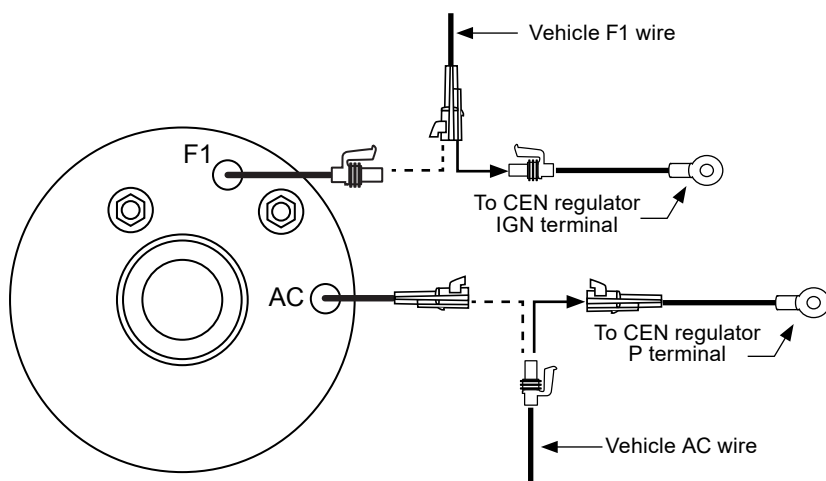

Figure 6: Reuse Existing FLD wire for IGN and AC wire from EMP
- If replacing **EMP** or similar alternator: remove connectors from F1 and AC pigtails on alternator (see Figure 6).